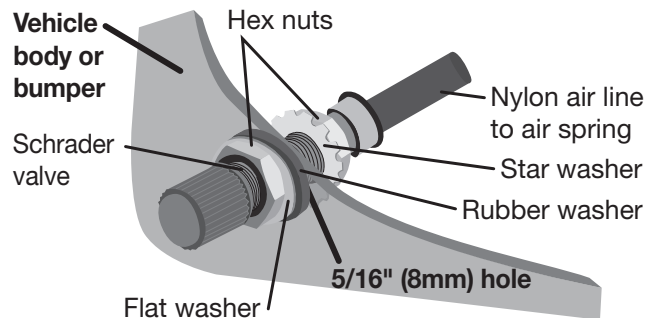

Fig. 25
5. Install the Schrader valve in the chosen location (Fig. 25).